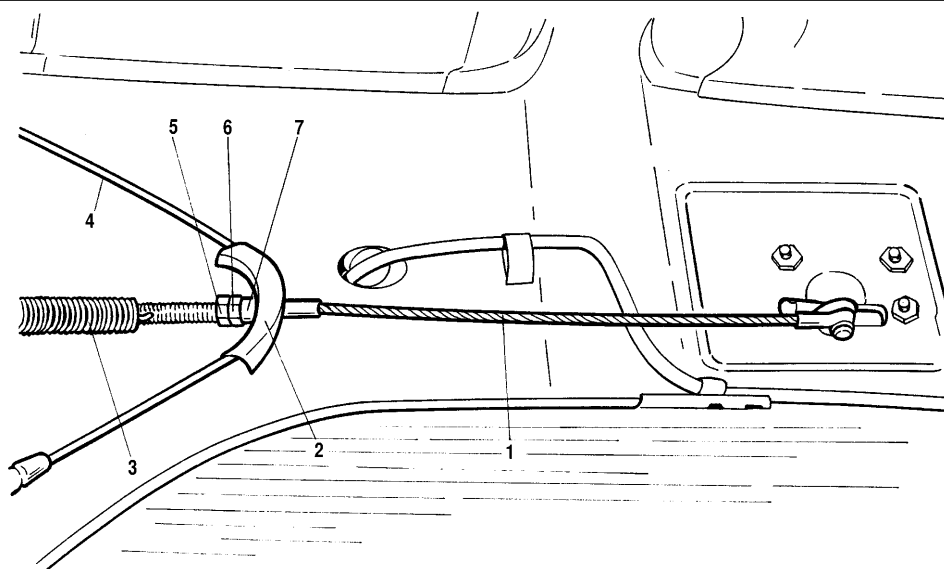

Fig. 6-4. Handbrake linkage:
- slacken locknut 5 (fig. 6-4) and by turning the adjusting nut 6 take up cable 1;